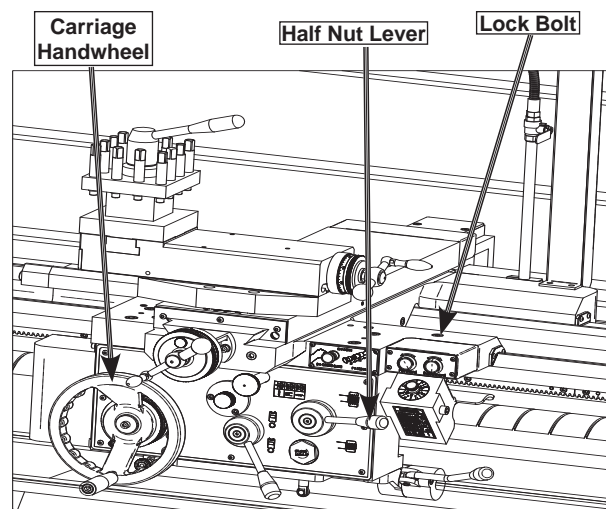

Figure 14. Carriage controls set for moving the carriage.
4. To further balance the load, loosen the carriage lock bolt, disengage the half nut lever, then use the carriage handwheel to move the carriage next to the tailstock. (Figure 14)